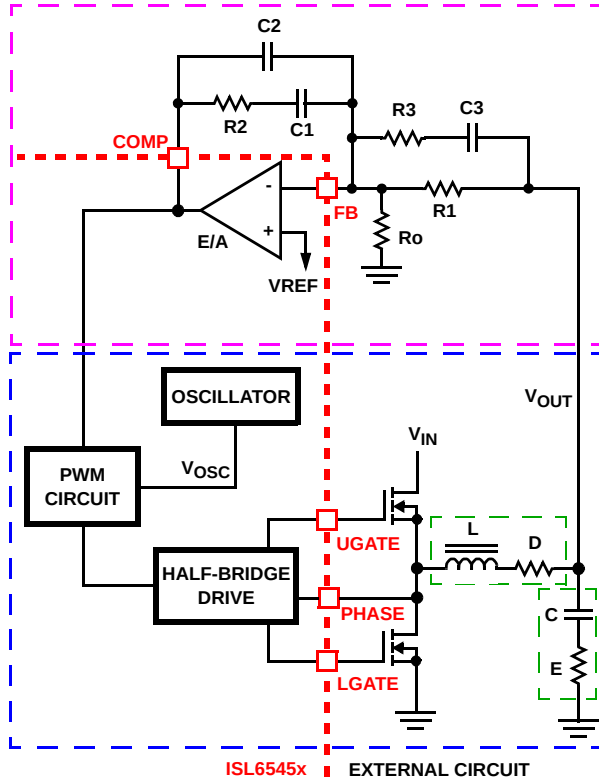

**FIGURE 9. VOLTAGE-MODE BUCK CONVERTER COMPENSATION DESIGN**
This section highlights the design consideration for a voltage-mode controller requiring external compensation. To address a broad range of applications, a type-3 feedback network is recommended, as shown in the top part of Figure 9.
Figure 9 also highlights the voltage-mode control loop for a synchronous-rectified buck converter, applicable to the ISL6545x circuit. The output voltage ( $V_{OUT}$ ) is regulated to the reference voltage,  $V_{REF}$ . The error amplifier output (COMP pin voltage) is compared with the oscillator (OSC) modified sawtooth wave to provide a pulse-width modulated wave with an amplitude of  $V_{IN}$  at the PHASE node. The PWM wave is smoothed by the output filter (L and C). The output filter capacitor bank's equivalent series resistance is represented by the series resistor E.
The compensation network consists of the error amplifier (internal to the ISL6545x) and the external R1-R3, C1-C3 components. The goal of the compensation network is to provide a closed loop transfer function with high 0dB crossing frequency ( $F_0$ ; typically 0.1 to 0.3 of  $F_{SW}$ ) and adequate phase margin (better than 45°). Phase margin is the difference between the closed loop phase at  $F_{0dB}$  and 180°. The equations that follow relate the compensation network's poles, zeros and gain to the components (R1, R2, R3, C1, C2, and C3) in Figure 9. Use the following guidelines for locating the poles and zeros of the compensation network:
1. Select a value for R1 (1kΩ to 5kΩ, typically). Calculate value for R2 for desired converter bandwidth ( $F_0$ ). If setting the output voltage via an offset resistor connected to the FB pin, Ro in Figure 9, the design procedure can be followed as presented.